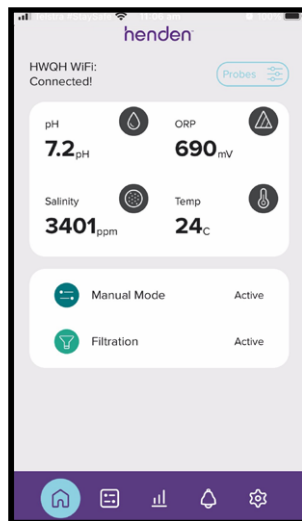

Figure 9.57
- Once back at the dashboard “Winter Mode Active” will now appear (refer Figure 9.57).